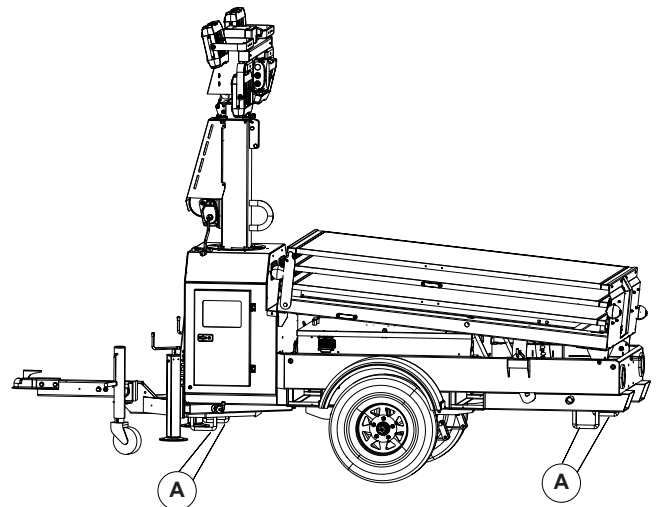

Figure 3-14. Tying Down the Unit
When securing the unit for transportation, verify the equipment being used to fasten the unit is in good condition and has sufficient strength to hold the unit in place during transport. See Figure 3-14. Use the tie-down points (A) as shown.